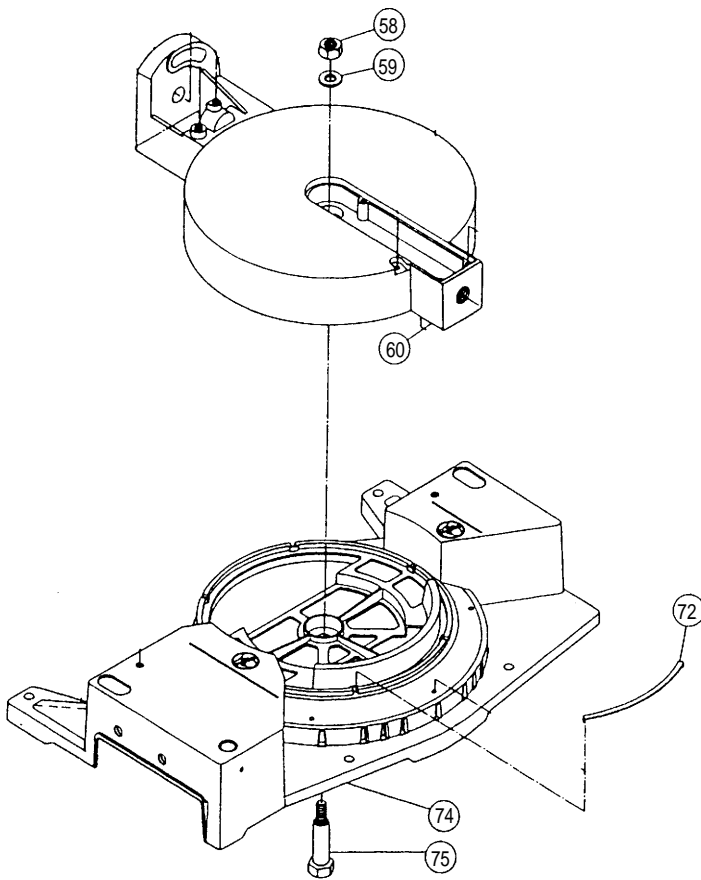

Fig. 19
- (1) Prior to reassembly, measure the insulation resistance of the armature, stator, switch and other electrical components and confirm that the insulation resistance of each part is more than 7 MΩ.
- (2) When assembling the Angle Regulator [32] and the Arm [120], apply 2 grams of Hitachi Motor Grease to the oil groove of the Angle Regulator [32].
- (3) When replacing the Torsion Spring [36], apply approximately 2 grams of Hitachi Motor Grease to the inner circumference of the new Torsion Spring [36] prior to reassembly.
- (4) When replacing the Rotation Slide Plate [72], assemble it into the unit as illustrated in Fig. 19. During reassembly, apply 6 grams of Hitachi Motor Grease to the Rotation Slide Plate [72] against the sliding surface of the Base [74].